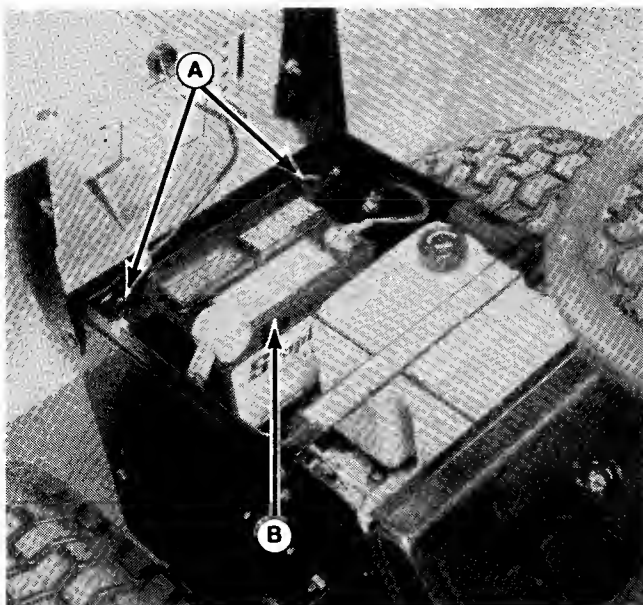

Figure 29.
3. Open seat deck to expose battery compartment. Remove battery holddown rods (A, figure 29). Slide battery (B) to the left side of tractor.